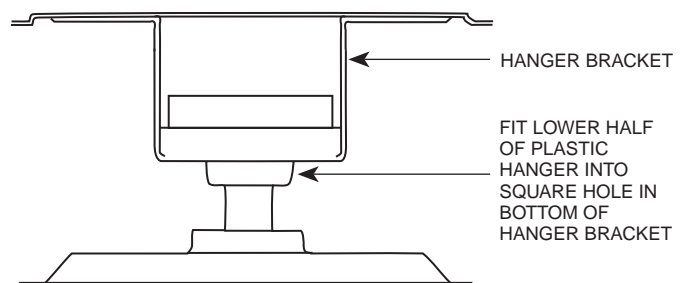

FIGURE 5A
**B.** Rotate the motor and plastic hanger assembly until the lower half of the plastic hanger fits into the square opening in the bottom of the metal bracket. Check the assembly by trying to rotate the motor and plastic hanger assembly. When properly installed the upper part of the plastic hanger will sit flat inside the hanger and the assembly will not rotate. See Figure 5A.